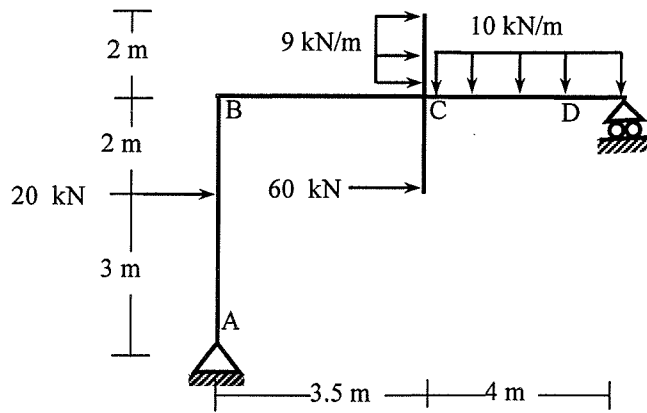

Fig.4
4. Analyze the frame shown in **Fig.4** to obtain axial force, shear force and bending moment diagram. [15]